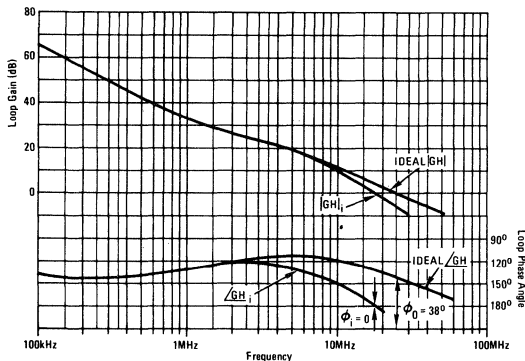

Figure 6
Therefore, the input capacitance creates a pole at  $\omega_p = 1/R_1 f C_i$  producing additional phase shift about this frequency. This will reduce the phase margin resulting in possible oscillation. For example, if  $R_1 = R_f = 2K$  and  $C_i = 10pF$ , the pole frequency is found to be  $f_p = 16MHz$ . The loop gain plot  $(GH)_i$  in Figure 6 reveals a perfect oscillatory condition at  $18MHz$ ; i.e.  $|GH| = 0dB$  and  $\phi_i$  (phase margin) = 0. If input capacitance were neglected, our prediction would have erroneously resulted in a phase margin ( $\phi_o$ ) of  $38^\circ$ .
- (1) Plot both gain and phase of the GH function on semi-log paper (see ideal GH curve Figure 6). The following points were tabulated: